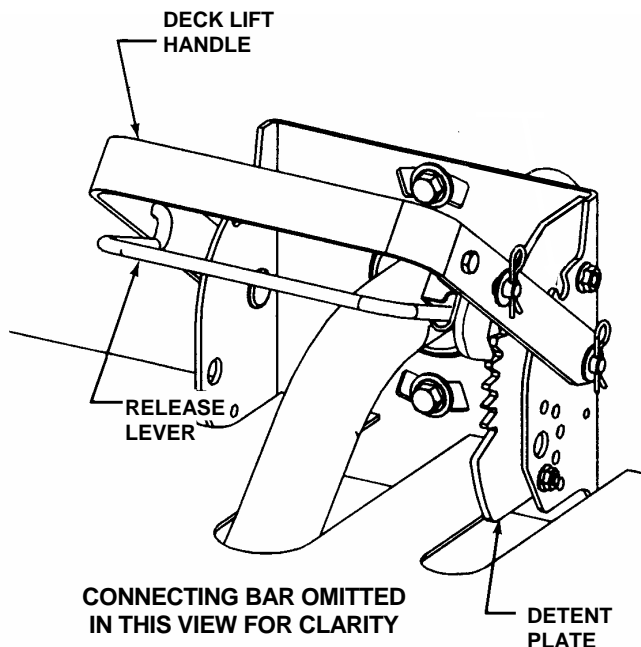

FIGURE 2.9
3. Release lower handle to engage latch. See Figure 2.9.